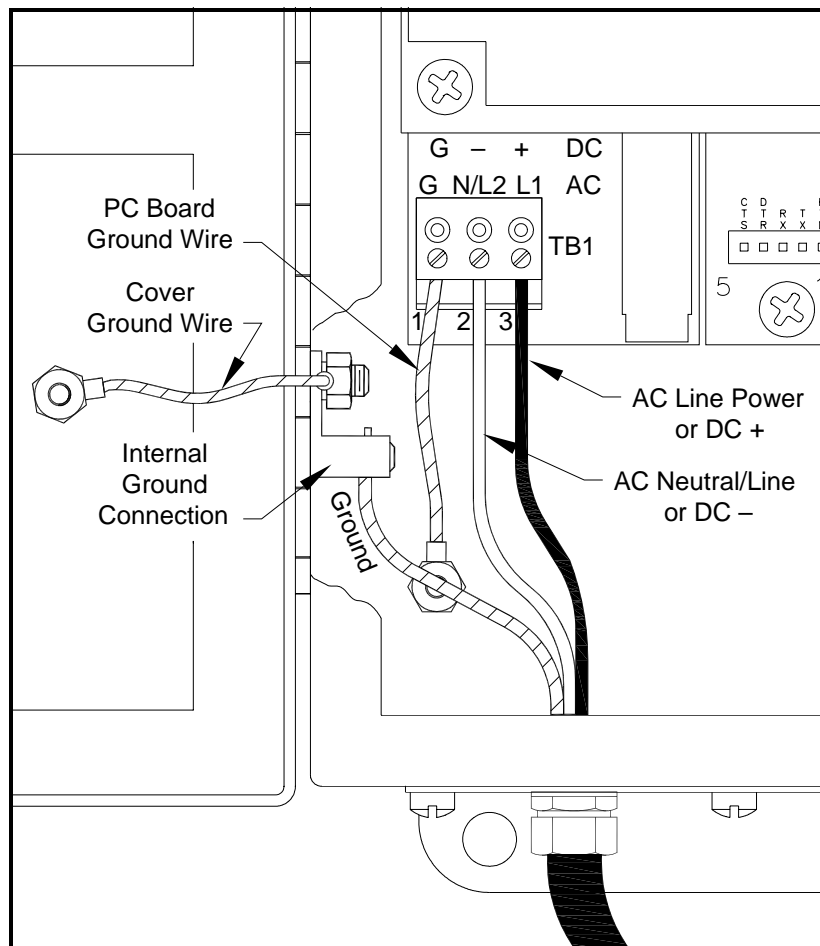

Figure 1-3: Wiring the Line Power
Refer to Figure 1-3 on page 1-8 or Figure 1-10 on page 1-20 to locate terminal block TB1 and connect the line power as follows:
3. Connect the ground lead to the internal ground connection located on the side panel of the enclosure (see Figure 1-3 below).
4. Connect the neutral or line lead (or the negative – DC power lead) to TB1-2, and the line power lead (or the positive + DC power lead) to TB1-3, as shown in Figure 1-3 below.